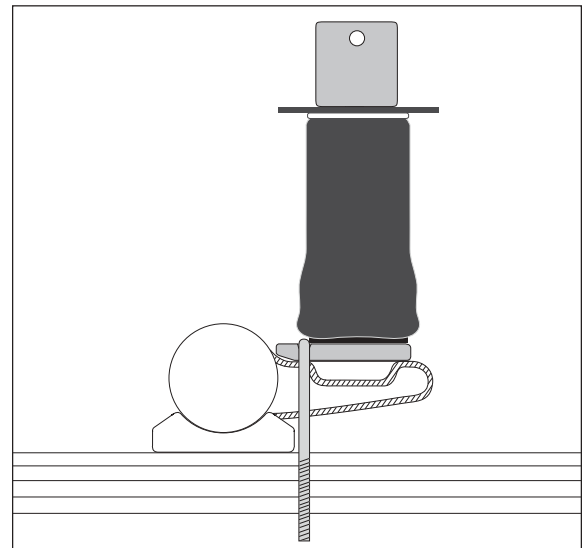
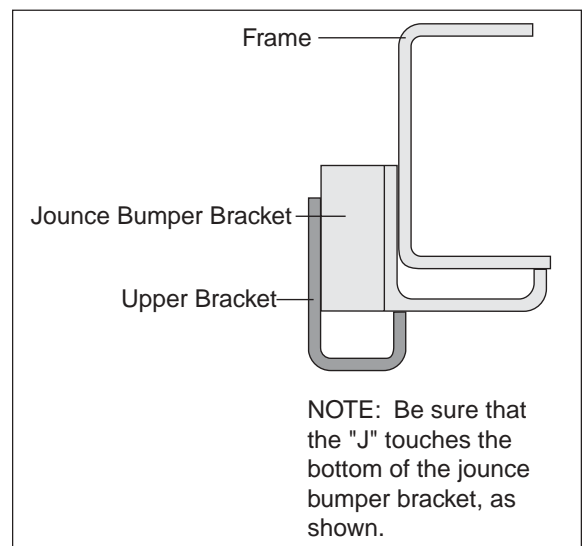

Figure 5
Figure 6
- Set the assembly over the lower jounce bumper strike plate. Set in place so that the U-bolts straddle the leaf spring (Figure 5).
- Set the assembly back in place and align the air spring in and out on the top so it is perpendicular to both brackets. When aligned at the top, carefully pull the upper bracket away from the frame and tighten the nylon nut (N) to 4 ft-lbs. *Do not overtighten. NOTE: It may be necessary to remove the assembly to tighten the top nut. Keep the top and bottom brackets aligned properly while doing this.*
*IMPORTANT: Make sure that the "J" touches the bottom of the jounce bumper bracket (Figure 6).*